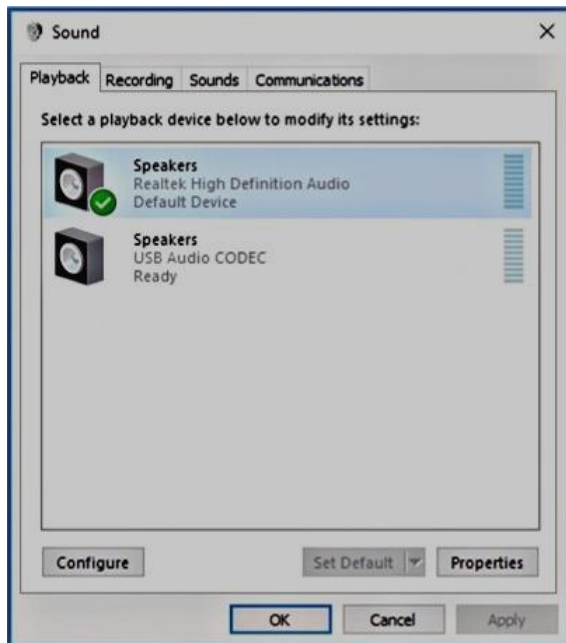

Figure 2 - Sound window Playback tab
- In the "Sound" window that opens, select the "Playback" tab as shown below in Figure 2.
- With your **computer's sound card** selected (it should be highlighted), click the "Set Default" button to set your **computer's sound card** as the default playback device. Your **computer's sound card** should now have a green check mark next to it as shown above in Figure 2.